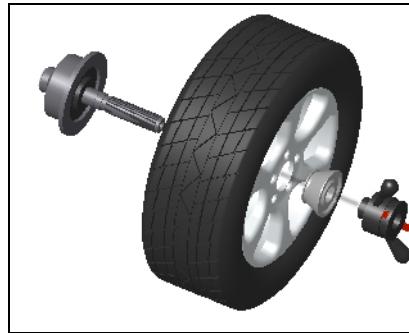

Figure 6-2
6.2.2.2 Negative positioning (refer to figure 6-2):